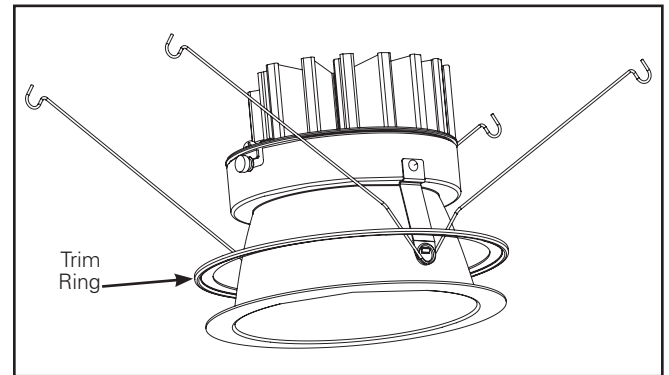

Figure 9.
- Trim Ring (optional) should be placed between the ceiling and the lower trim (Figure 9.).